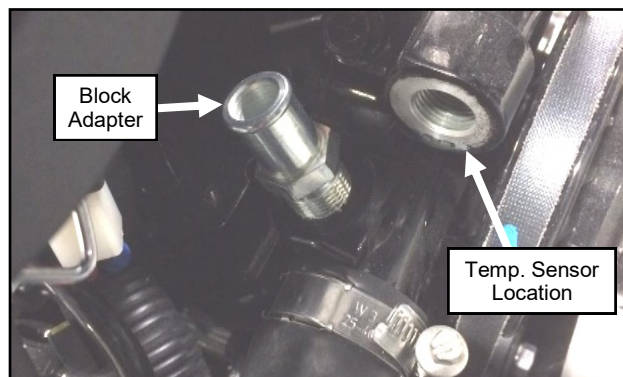

Figure 17.7 (Block Adapter Install)
- 17.7 Disconnect temp sensor wire from the back of the temperature sensor. Remove 3/8" plug as well as temperature sensor and brass washer from water pump. See figure 17.7.
- 17.8 Install block adapter into 3/8" plug location per figure 17.7.